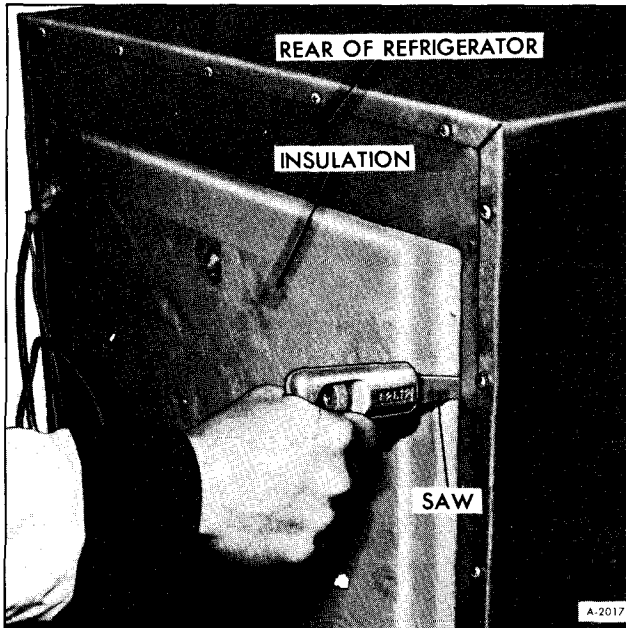

Figure 14—Cutting Insulation
10. Cut out insulation from opening where sheet metal plate was removed (figure 14).